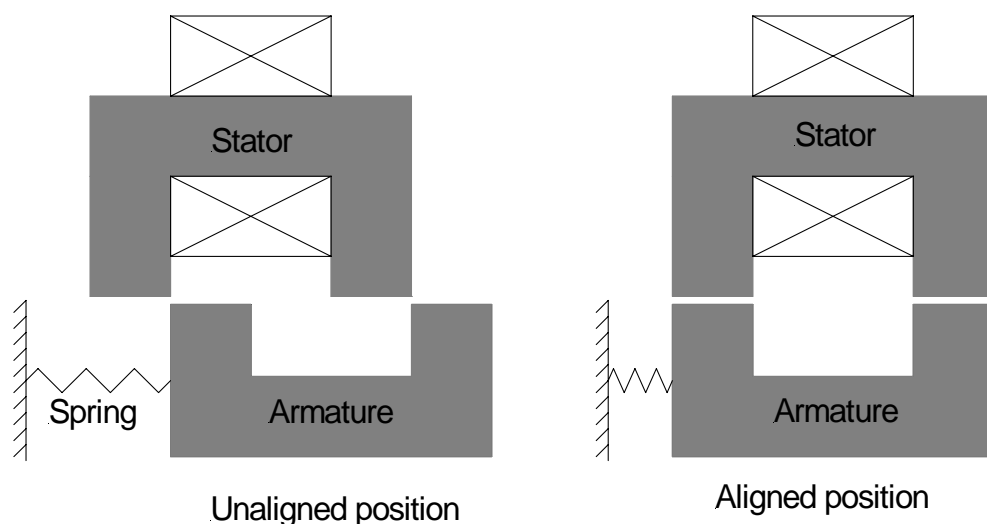

Figure 3.1 Schematic of a single-phase linear reluctance actuator
- e. The inductively compensated machine is connected to the same 230V (rms), 50Hz sinusoidal AC supply and provides the same torque to the mechanical load as that produced on the 200V DC supply at 16,000rpm. Assuming that the q-axis rotor coil and the d-axis stator coil have the same self inductance of 0.06H and that ideal compensation is achieved, calculate the speed at which the inductively compensated motor rotates and its power factor at this operating point. (4)
2. a. Using an appropriate diagram, briefly describe the steps involved in transforming the actual physical form of a three-phase non-salient induction motor to its Kron primitive equivalent (*there is no need to include mathematical derivations, brief descriptions of the purpose of each transformation will be sufficient*) (4)
- b. Starting from the Kron primitive equivalent of a non-salient three-phase, induction motor, derive the voltage equations and a corresponding equivalent circuit for steady-state operation with a sinusoidal AC supply. (8)
- When operating at a slip of 1470rpm, calculate the magnitude of the input phase current, the power factor and the total electromagnetic output torque produced by the machine at this operating point. (8)
3. Figure 3.1 shows a schematic representation of a single-phase linear reluctance actuator which is used in an electronic controlled security lock. The armature is drawn into alignment when current is passed through the coil. With no current in the coil, the actuator is forced back into the un-aligned position by the action of a mechanical spring. The armature moves 10mm between the unaligned and aligned positions shown in Figure 3.1. The coil has 200 turns.
Figure 3.2. Measured flux-linkage versus current characteristics for linear displacements between the unaligned and aligned positions for the actuator of Figure 3.1
- a. Calculate the average forces produced by the actuator over its full 10mm stroke for DC currents of 2A and 5A (6)
- b. By plotting a corresponding flux-linkage versus armature displacement characteristic for a current of 5A (using the graph paper provided) estimate the magnitude of the induced emf in the coil at an armature displacement of 5mm from the un-aligned position if the armature is moving at 1.4 m/s at this displacement. (6)
- c. In practice, the device shown in Figure 3.1 is operated dynamically from a constant voltage source, with the applied voltage being removed from the coil when the armature has moved through approximately 75% of the full stroke. Sketch a typical dynamic flux-linkage versus current trajectory for the period up to removal of the applied voltage and a separate trajectory for the remainder of the stroke, taking care in each case to shade and define any components of energy which may be of interest (these two trajectories need only be representative sketches in your answer book and not trajectories on graph paper with the same scaling as Figure 3.2). (4)
- d. The stator and armature core materials saturate at a flux density of approximately 1.4T. Using the flux-linkage versus current characteristic for the aligned position, estimate the length of the airgap between the stator and the armature. (4)